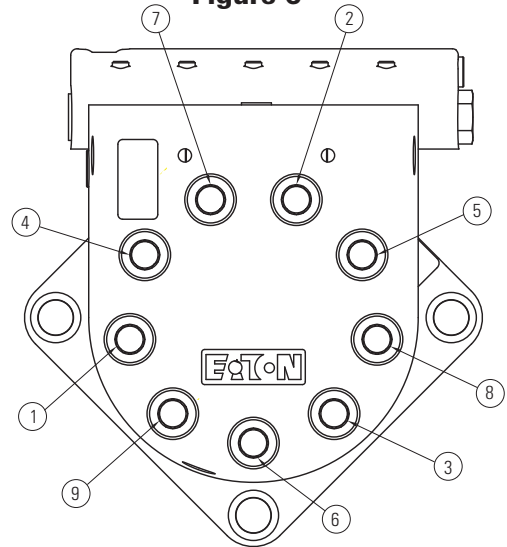

Figure 7
- 4.3.7 Install nine cap screws lubricated with DTE-26. Pre-torque each in a crisscross pattern (see Figure 7) to 80+/-10 lb-ft. Finally, in a crisscross pattern, tighten screws to 105+/-5 lb-ft.
- 4.7.7 Install nine cap screws lubricated with DTE-26. Pre-torque each in a crisscross pattern (see Figure 7) to 80 +/- 10 lb-ft. Finally, in a crisscross pattern, tighten screws to 105 +/- 5 lb-ft.